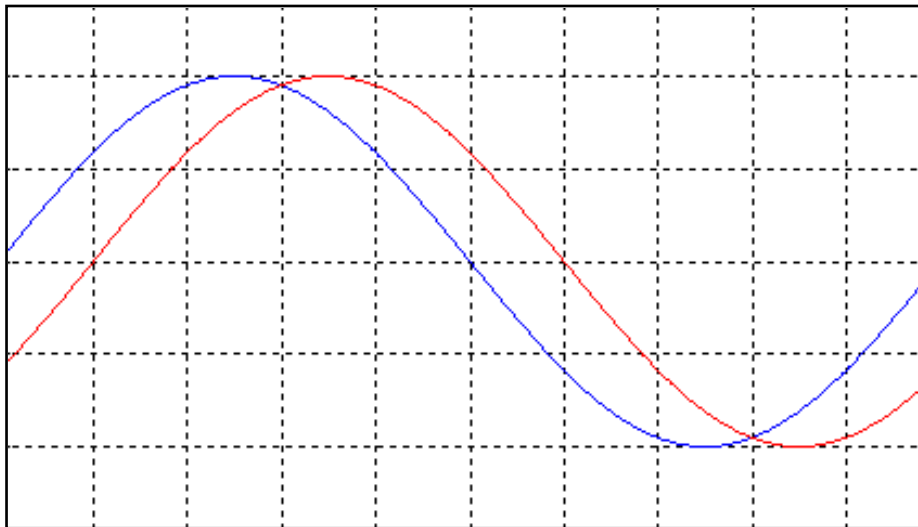

Figure P.1 – Overlapping Sine Waves (Channel-1 – Blue, Channel-2 – Red)
1. **Complete** the following table based on **Figure P.1**: